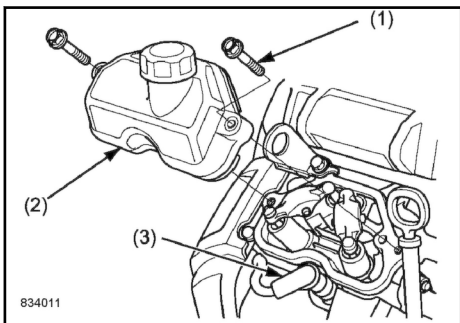

Fig. 93
Unscrew the cylinder head cover fastening screws (1) ↪ Fig. 93 and take off both cylinder head covers (2).